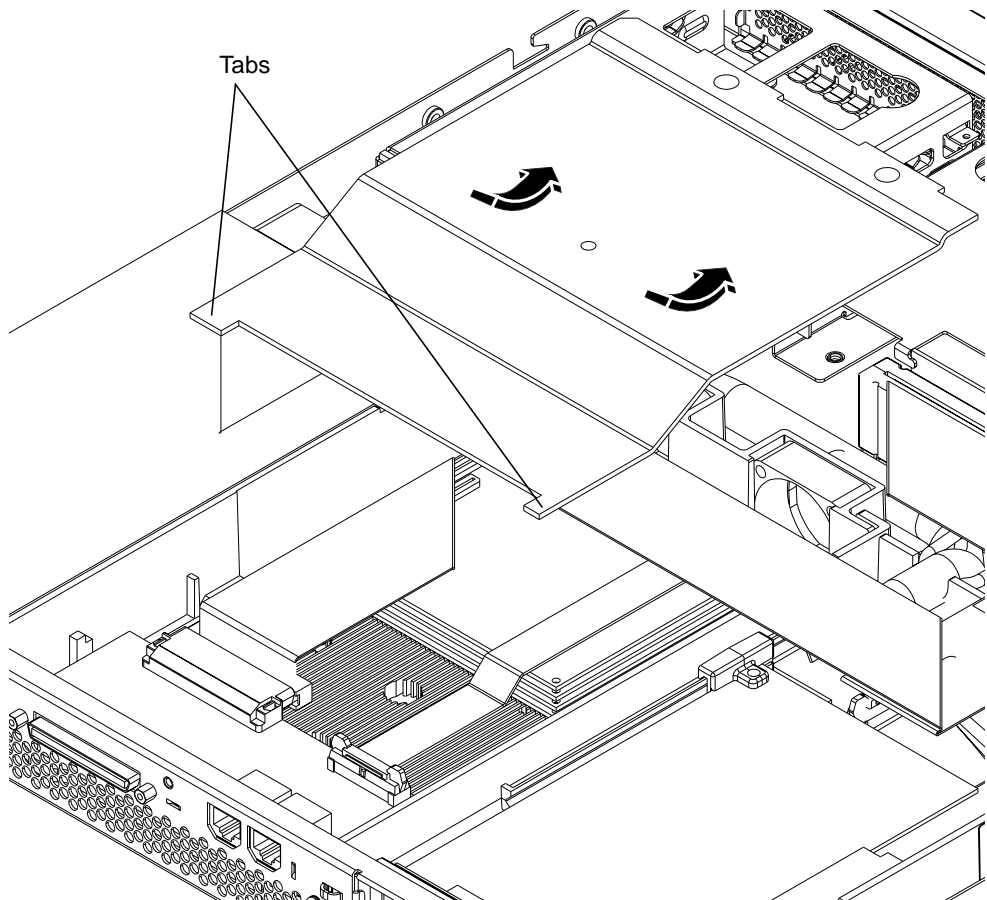

FIGURE B-1 Lifting out the Processor Cover
2. Lift out the processor cover located in the rear center of the unit (see FIGURE B-1). Make sure you slide the processor cover tabs from under the rear I/O card before lifting the processor cover away from the system.